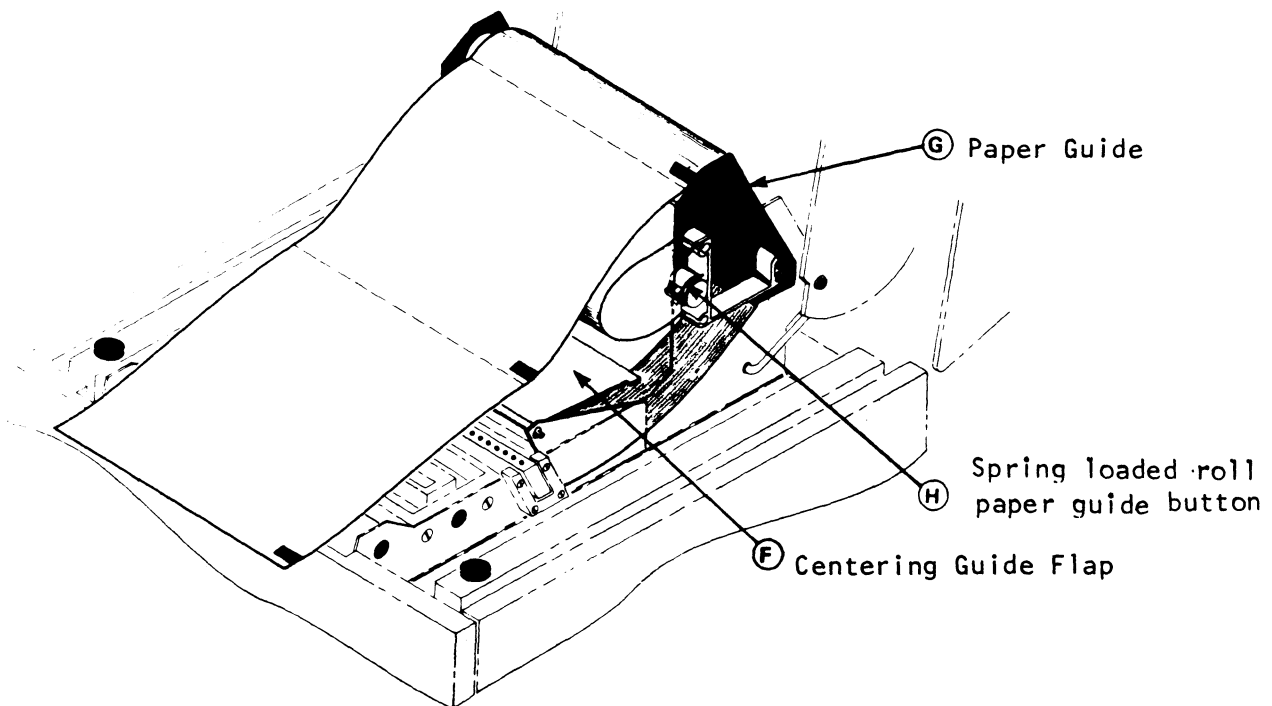

Figure 3-12 Loading Paper over the Paper Guide Assembly
6. Pull the first fanfold sheet back under, then forward over the top of the Teflon coated tension roller, as shown in Figure 3-12. The paper DOES NOT GO BETWEEN the horizontal aluminum spacer bar and the tension roller. The paper DOES GO AROUND both the spacer bar and the tension roller.
7. Place the U-shaped retainer, attached to a small chain on the right side of the installed assembly, between the flange on the spring-loaded roll paper guide and the L-shaped paper support bracket (see "H", Figure 3-12). This keeps the roll paper guide depressed, which prevents interference to the paper travel during fanfold operation.